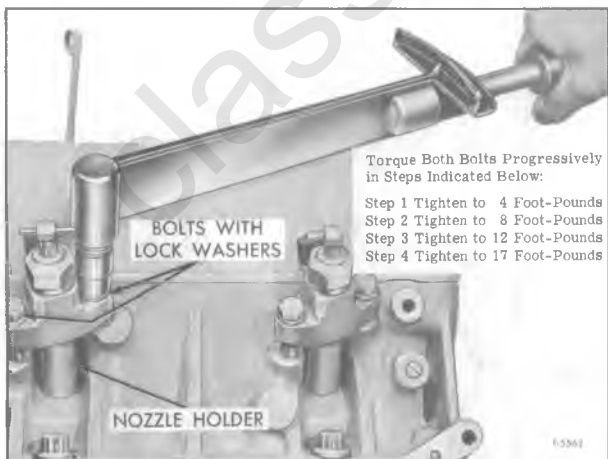

Figure 25—Tightening Nozzle Holder Bolts with Torque Wrench
2. Install two bolts with lock washers (one long bolt and one short bolt is used at each nozzle) into tapped holes in cylinder head assembly. Use torque wrench (fig. 25) and gradually tighten nozzle holder bolts alternately to avoid any tendency to bend the holder assembly.
NOTE: Final tension on two nozzle holder bolts should be equal to seat assembly squarely on copper gasket. This can best be accomplished by torquing bolts in four steps. Torque each bolt first to four foot-pounds, then to eight foot-pounds, twelve foot-pounds and then seventeen foot-pounds (fig. 25).